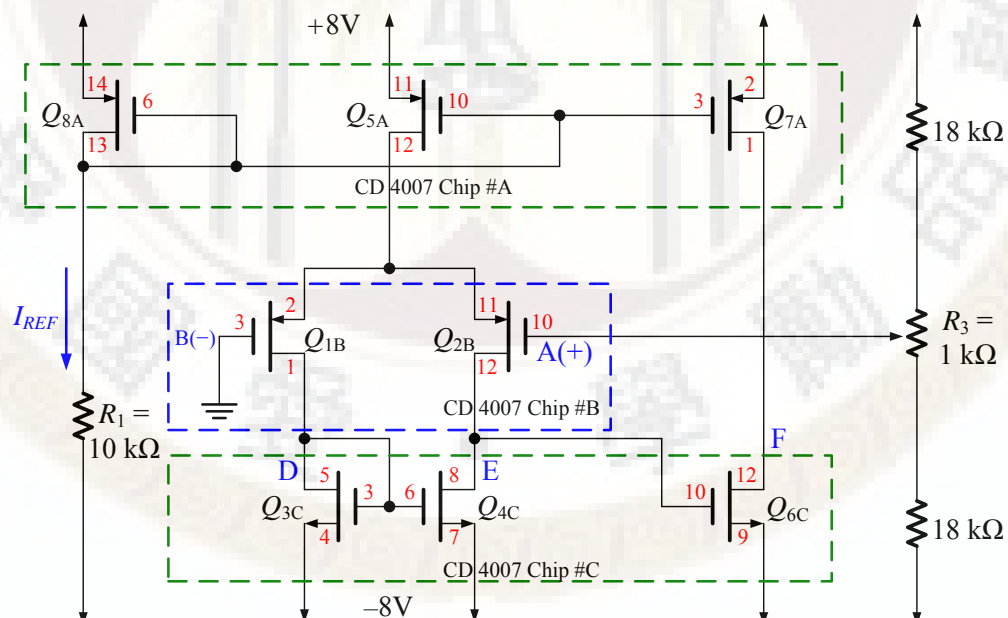

Fig. 3 Selection of DC-bias point in Two-stage OP-Amp circuit
(1) Adjust VR (R_3) in Fig. 3 (shown in the next page) to have $V_F \doteq 0$.
- (1) Use $R_2 = 100\text{ k}\Omega$, $C_2 = 10\text{ pF}$ in to implement the compensation circuit in Fig. 3.